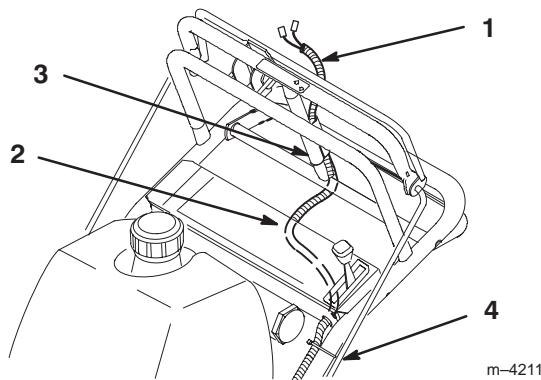

Figure 3
- Route wire harness inside of frame, along left handle and over throttle cable. Compress wire harness covering and press into lower and upper holes in rear of control panel (Fig. 3).
- Thread harness up through rear tube of traction handle (Fig. 3).
- Secure wire harness and throttle cable to left handle, away from PTO lever, with wire tie (Fig. 3).